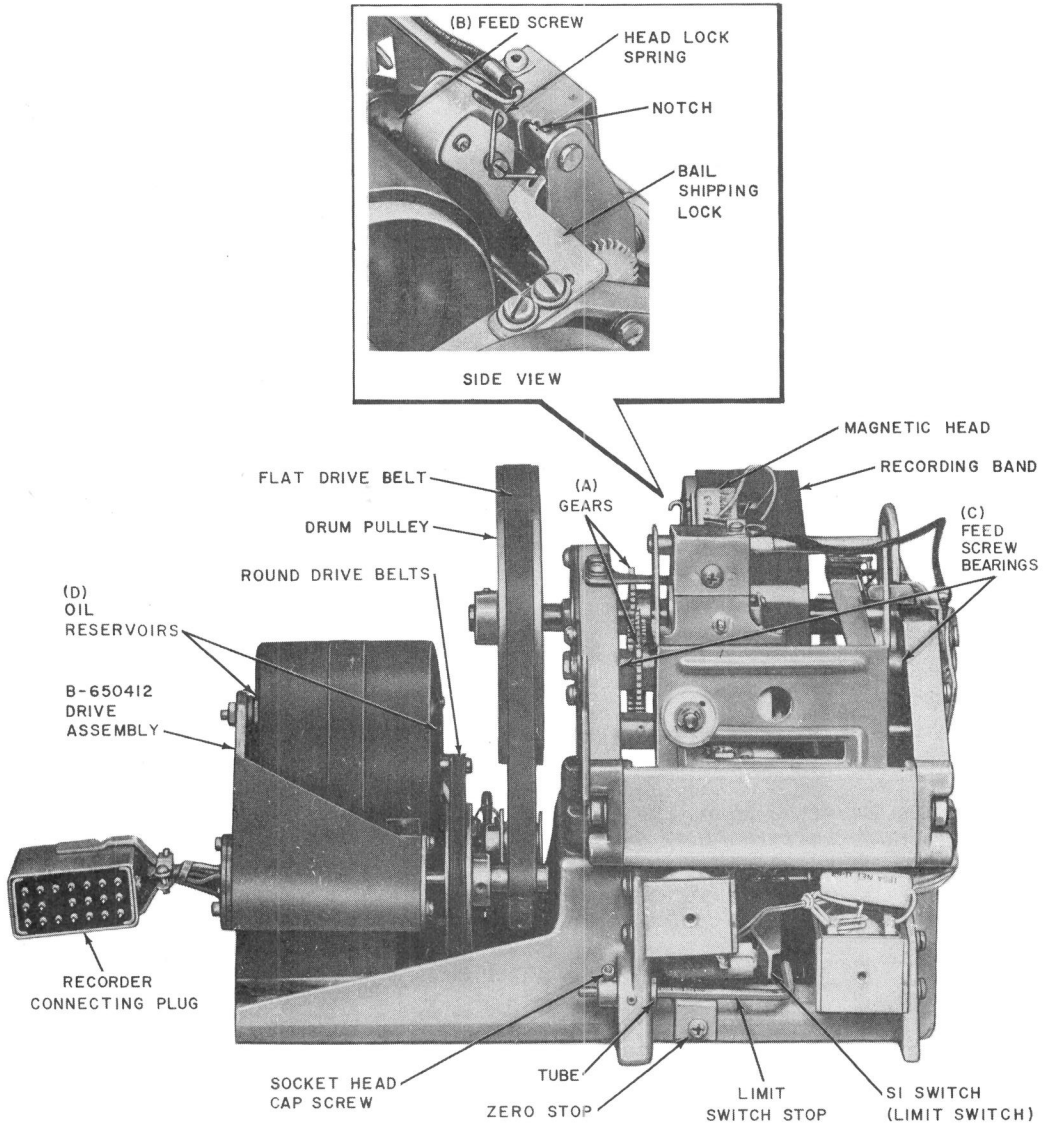

Fig. 6—KS-16765, List 3 Recorder, Front View
**2.09** The KS-16765, List 3 recorder (Fig. 6 and 7) is the announcement recording mechanism. It consists of a magnetic record-reproduce head, an apparatus for tracking and switching, and a magnetic recording band on a drum. The drum is revolved by the B-650412 drive assembly (Fig. 10)
2.12 Facilities are provided for limiting the maximum recording interval to any portion of the total capacity. This is accomplished by adjustment of the limit switch stop (Fig. 6).